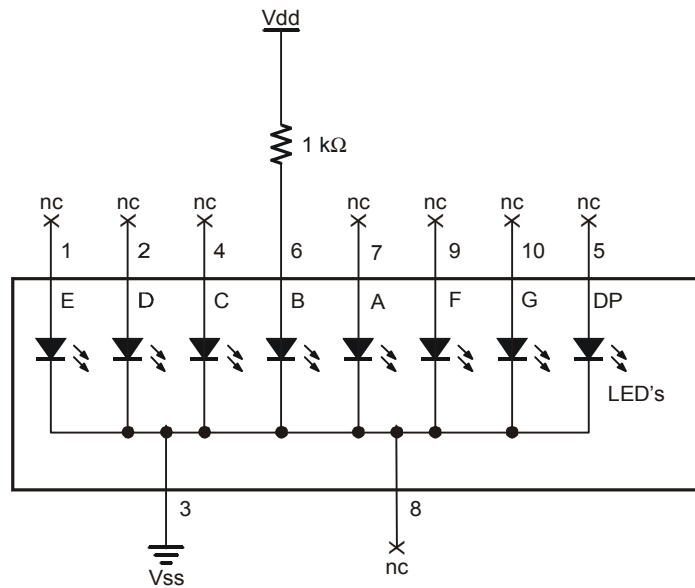
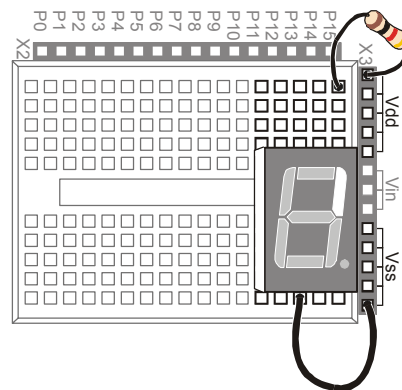

Figure 6-6
Figure 6-7
- ✓ Disconnect power, and modify the circuit by connecting the resistor to the B LED input as shown in Figure 6-6 and Figure 6-7.